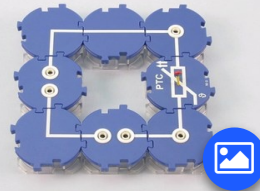
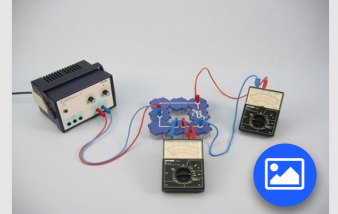

Fig. 1
Fig. 2
- Set up the experiment according to Fig. 1 and Fig. 2. Select the measuring ranges 10 V- and 30 mA-.